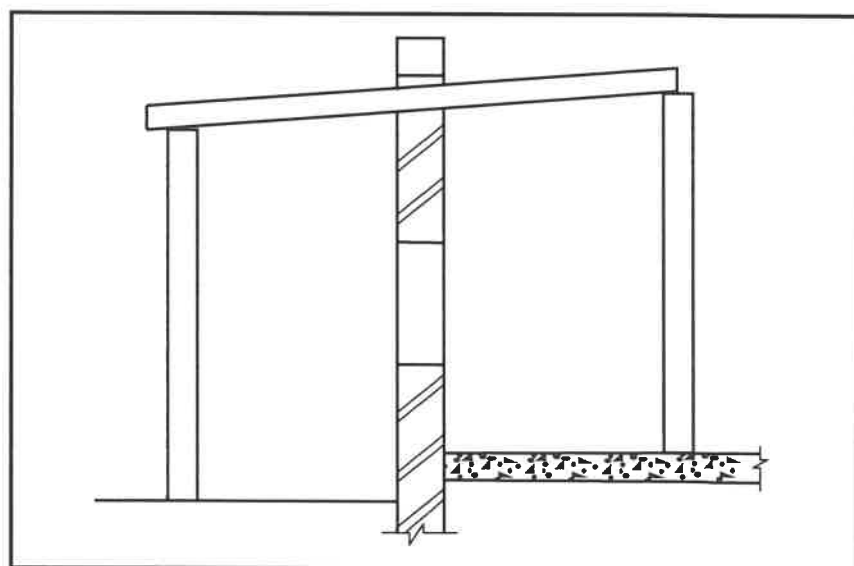

FIGURE 5.4
5.4 FIGURE 5.4 below shows a dead shore that was constructed incorrectly. Redraw the table below into your ANSWER BOOK and identify TWO possible mistakes in the construction of the dead shore AND recommend possible solutions to rectify the mistakes.